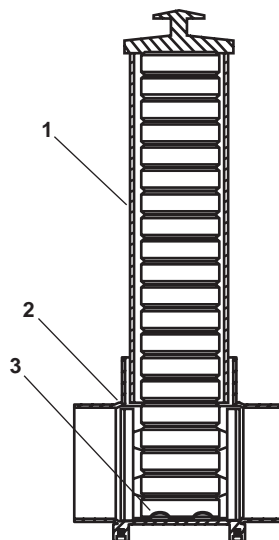

Figure 2. Chlorinator Adjustment
1. To provide the maximum chemical dose, fully insert the feed tube (figure 2, item 1) into the body (figure 2, item 2) until it locks into position between the ribs in the flow deck (figure 2, item 3).
2. To reduce the chemical dose, rotate the feed tube (figure 2, item 1) clockwise 1/4 of a turn. Rotating the feed tube raises the tube approximately 1/8" and reduces the chemical dose.